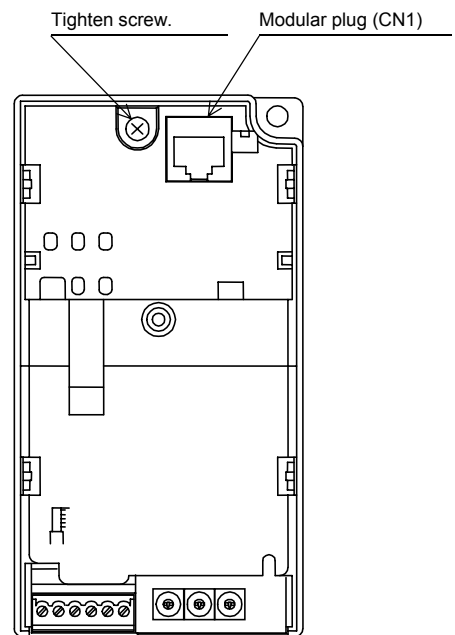

Fig. 2 Front of SI-C/V7 Unit
5. Refer to Fig.2 for the location of the screws to attach the SI-C/V7 unit on the inverter. The screw has already been screwed in on the interface unit.